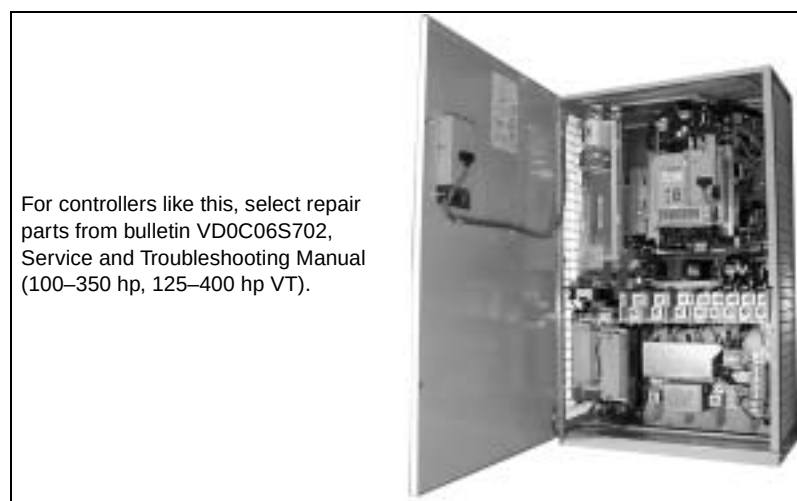

Figure 1: ATV66C10N4–C19N4: Shipped On or Before May 31, 1998
- If the serial number does **not** have a "1" as the seventh digit, consult bulletin VD0C06S702 for repair parts. These are drive controllers that shipped on or before May 31, 1998. They are illustrated in Figure 1.